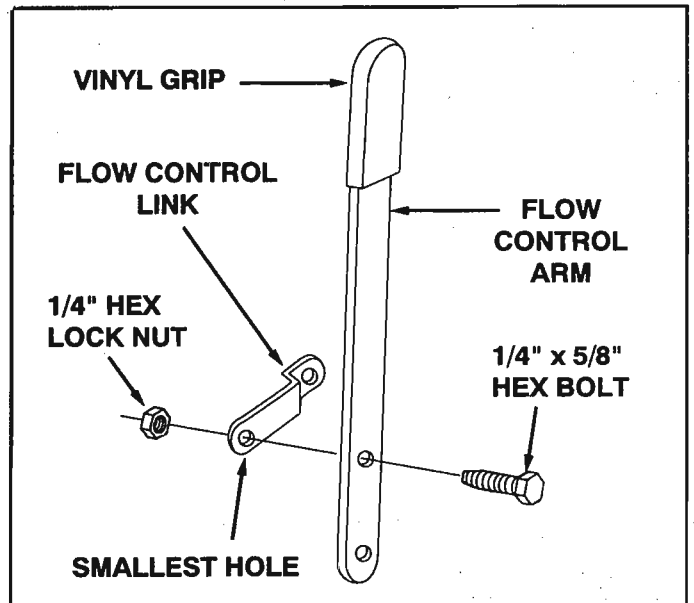

FIGURE 10
15. Assemble the flow control link (the end with smallest hole) to the flow control arm using one 1/4" x 5/8" hex bolt and one 1/4" lock nut. See figure 10. **DO NOT OVERTIGHTEN. THE FLOW CONTROL LINK MUST PIVOT FREELY.**
16. Place vinyl grip on the flow control arm. See figure 10.